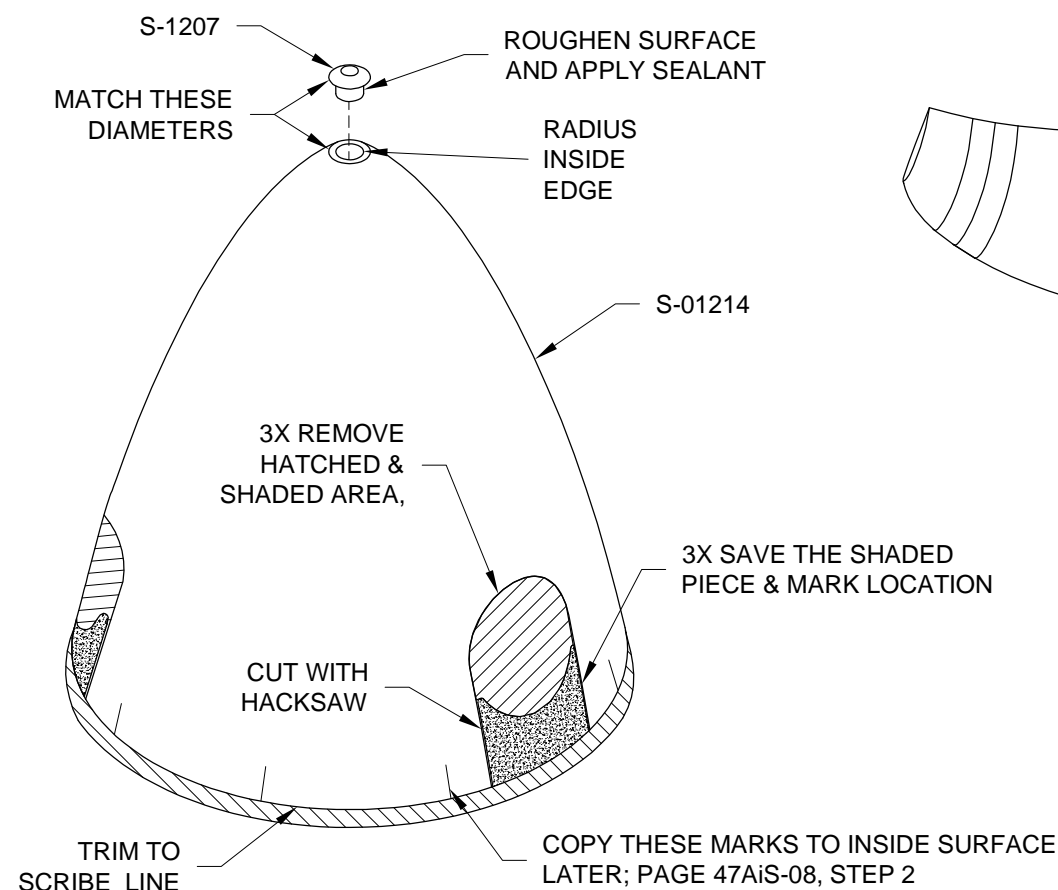

FIGURE 1: MAKING THE PROPELLER CUTOUT
Step 3: Carefully remove the propeller cutout areas on the sides of the S-01214 as shown in Figure 1. Start by drilling several holes with a step drill or plexi bit about 1/16 in. [1.6 mm] inside of the pre-marked radius at the top of the propeller cutout area.
Step 7: Sand the tip of the S-01214 until the outer diameter matches the outside diameter of the S-1207 as shown in Figure 1. Remove a little at a time with a flat sanding block. Care should be taken to keep the surface level.
Step 8: Using sandpaper, create a small radius on the inside edge of the S-01214 opening to allow the S-1207 to mate properly. See Figure 1.
Step 9: Roughen the surface of the S-1207 with coarse grit sandpaper where it will contact the S-01214. Apply a thin smear of fuel tank sealant to the S-1207 and insert in the S-01214. See Figure 1. Remove the excess sealant. Let the sealant fully cure before continuing.